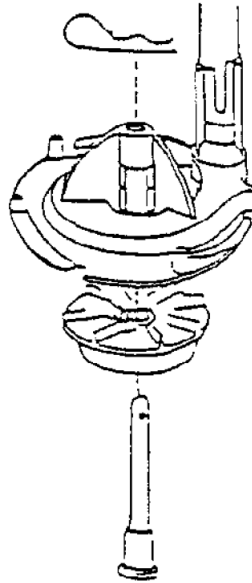

Figure 5.
3. Push the impella support pin through the impella and up through the center hole of the pump housing. Insert retaining clip. (See Figure 5.)